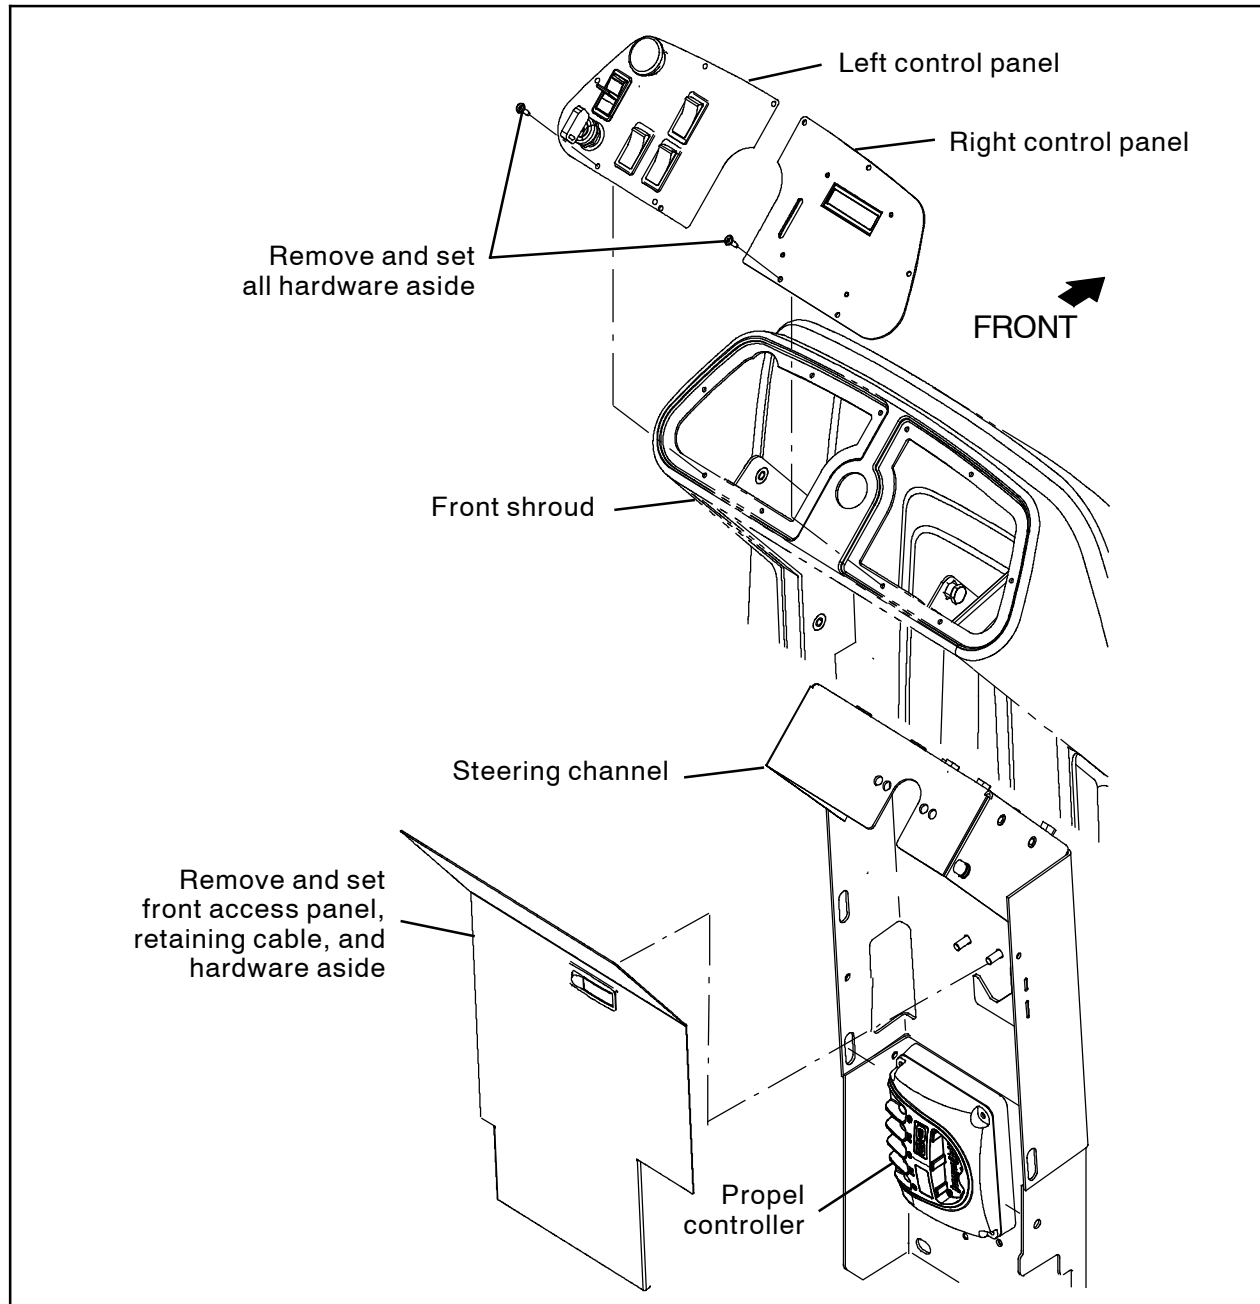

FIG. 23
2. Remove the front access panel and the hardware securing the retaining cable to the machine. Set the front access panel/retaining cable and hardware aside. (Fig. 23)
3. Remove the hardware securing both the right control panel and left control panel to the front shroud. Set the hardware aside. (Fig. 23)
4. Carefully pull both the right control panel and the left control panel from the front shroud. **Do Not** break any cable/wire connections when removing either control panel. (Fig. 23)